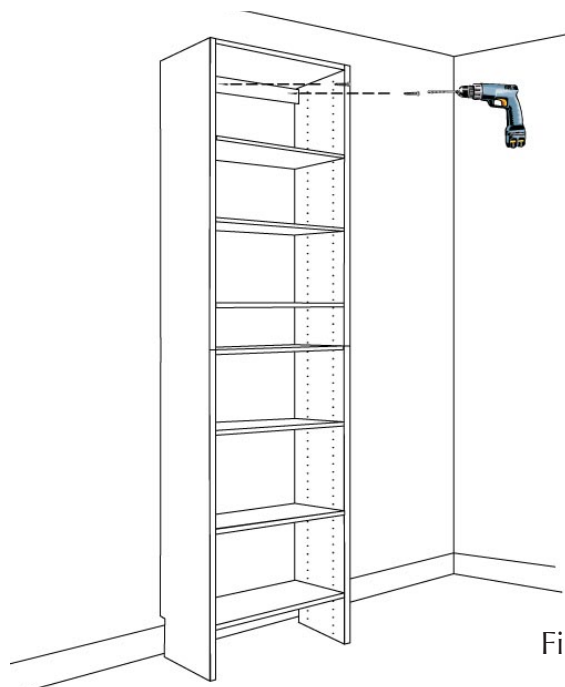

Fig. 6
- Fasten the tower to the closet's wall with appropriate wall screws through the upper cleat. (See "Working with Different Wall Types" for details.) (See Fig. 6.)